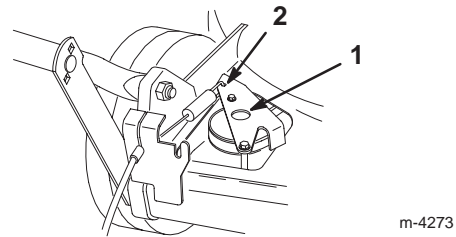

Figure 25
4. Push the drive bracket down until it contacts the lawn mower, then hold it in place (Fig. 25).